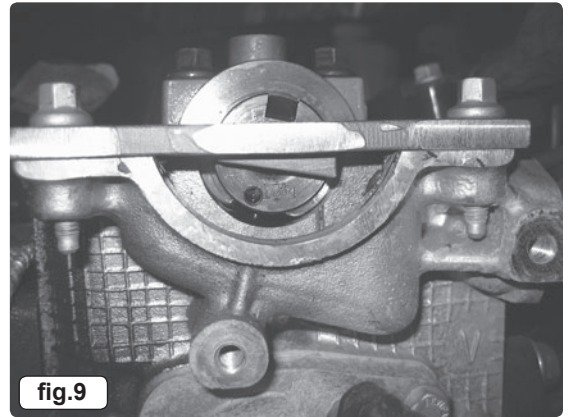

fig.9
- 3.3.1 Rotate the crankshaft to engine timing position and check the camshaft timing is correct by temporarily inserting VS4952 Setting Plate in to the “slot” at the rear of the camshaft, ensuring the camshaft position is not 180 degrees out (fig.9).